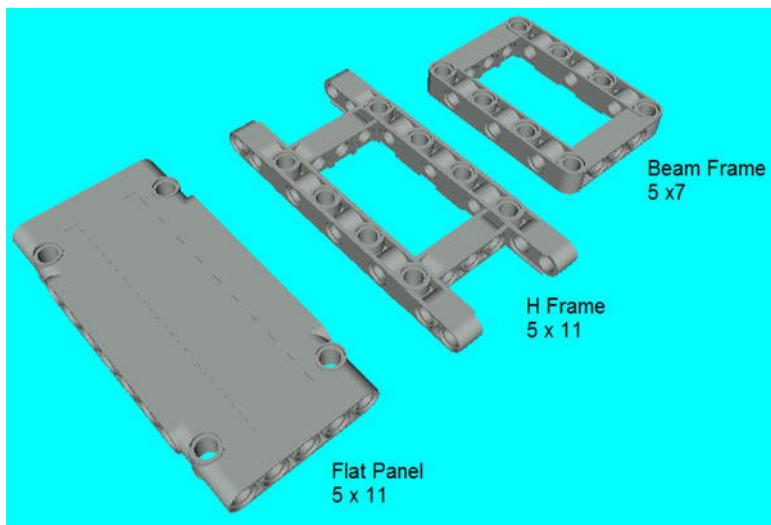

Figure 1-12. Examples of panels and beam frames in LEGO Technic
- Panel: Like the examples in Figure 1-12, plus more.
- Panel, Decorated: Also like the pieces in Figure 1-12, but these often have stickers or some type of graphics on them.